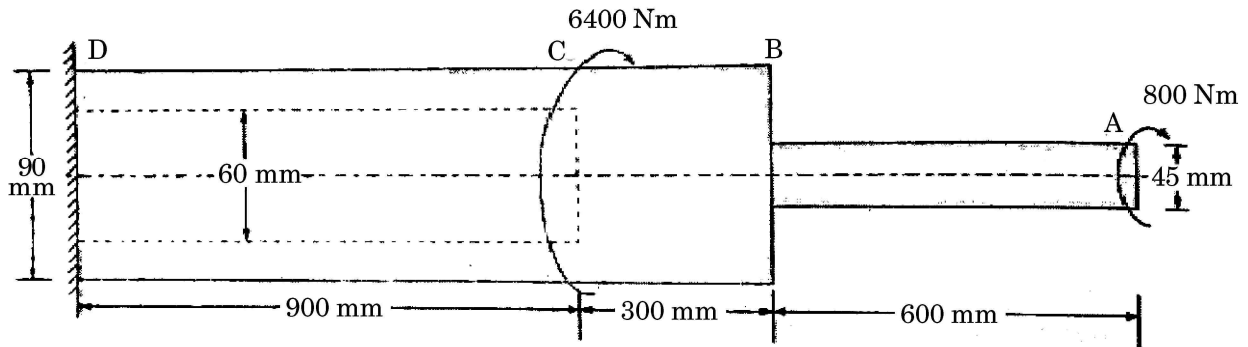

Fig. 6
- (b) A uniform rod AB has $\sigma_y = 250$ MPa and $E = 200$ GPa. Collar D moves along the rod and has a speed of 3 m/s. It strikes a small plate attached to the end B of the rod as shown in Fig. 6. Using FOS = 4, determine the largest allowable mass of the collar if the rod is not to be permanently deformed. [6]
6. (a) Fig. 6 shows a horizontal shaft ABCD fixed to a rigid base at D and subjected to torques. A hole 60 mm in diameter has been drilled into the part CD of the shaft. Determine the angle of twist at the end A. Take $G = 7.7 \times 10^4$ MPa. [6]